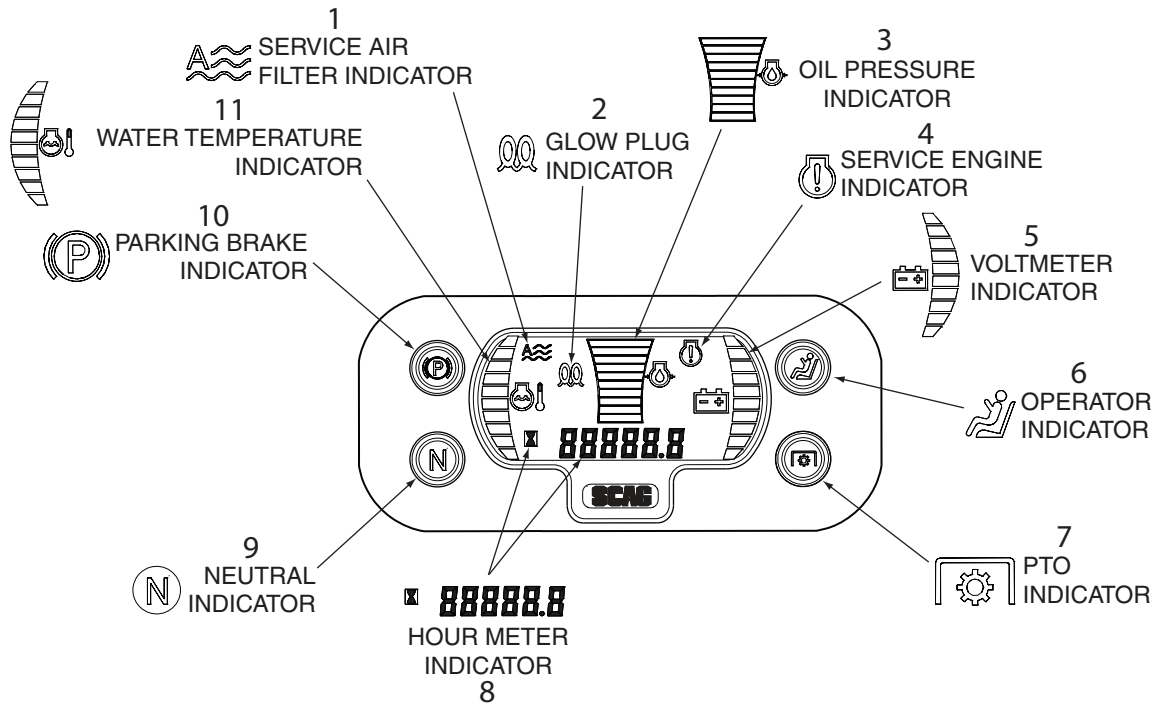

Figure 4-1. Tiger Eye Advanced Monitoring System
5. **Voltmeter Indicator (Figure 4-1).** Indicates the condition of the charging system. When the engine is running, in normal operating conditions, the bar graph should be in the 12 to 14 volt range.
6. **Operator Indicator (Figure 4-1).** Light will illuminate when the operator is on the platform engaging the operator presence switch.
7. **PTO Indicator (Figure 4-1).** Light will illuminate when the PTO (mower deck) switch is in the OFF position.
8. **Hourmeter Indicator (Figure 4-1).** Indicates the number of hours the engine has been operated. It only operates when the engine is running. Will start flashing with the Service Engine Indicator at scheduled maintenance 2 hours before preset time and continue flashing until 2 hours after. Automatically resets.
9. **Neutral Indicator (Figure 4-1).** Light will illuminate when the steering control levers are in the neutral lock position.
10. **Park Brake Indicator (Figure 4-1).** Light will illuminate when the park brake is in the engaged (ON) position.
11. **Water Temperature Indicator (Figure 4-1).** Used on Liquid Cooled Models Only. Indicates the operating temperature of the engine. If the engine temperature exceeds the maximum preset value, the indicator will flash and the Park Brake, PTO, Seat and Neutral indicator lights will flash in an alternating pattern.
1. **Service Air Filter Indicator (Figure 4-1).** Optional Accessory. Indicates the condition of the engine air filter. Icon will display when it is time to change the air filter.
2. **Glow Plug Indicator (Figure 4-1).** Used on Diesel Powered Units Only. Indicator turns on when the key switch is turned to the PREHEAT position. Glow plugs must be preheated for 5 to 10 seconds before starting the engine.
3. **Oil Pressure Indicator (Figure 4-1).** Used on Diesel Powered Units Only. Indicates engine oil pressure. Reference the engine operator's manual for further information.
4. **Service Engine Indicator (Figure 4-1).** Indicates the maintenance reminder for the engine oil change. Has preset maintenance reminder and will start flashing scheduled maintenance 2 hours before preset time and continue flashing until 2 hours after. Automatically resets.